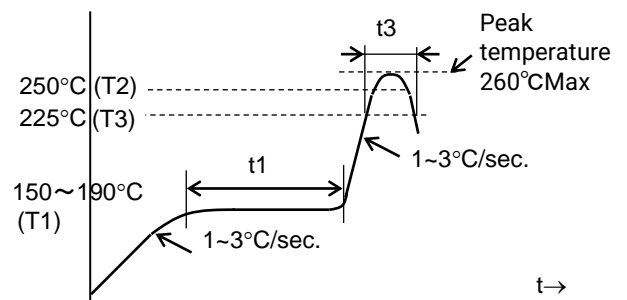

Fig.8 Temperature profile for reflow soldering (Example)
• Reflow soldering Soldering in high temperature atmosphere	Table 6 (See Fig. 8 for temperature profiles.) Soldering should be done with once in principle, twice is allowed.